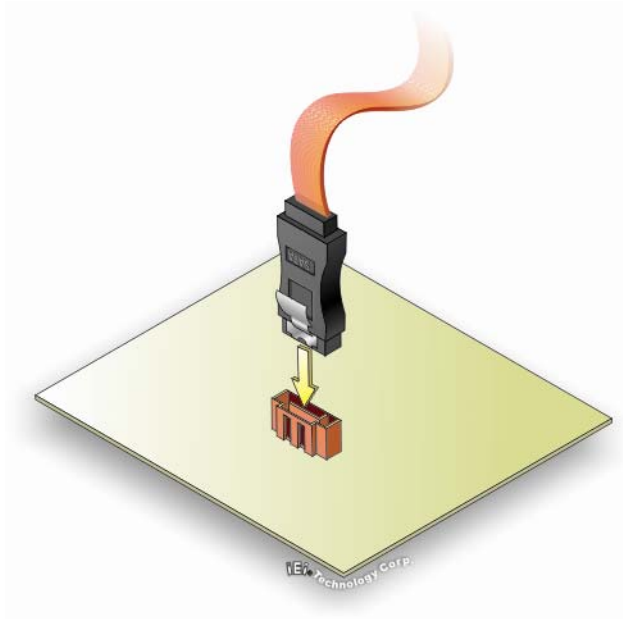

Figure 4-13: SATA Drive Cable Connection
Step 2: Insert the cable connector. Press the clip on the connector at the end of the SATA cable and insert the cable connector into the onboard SATA drive connector. See **Figure 4-13**.